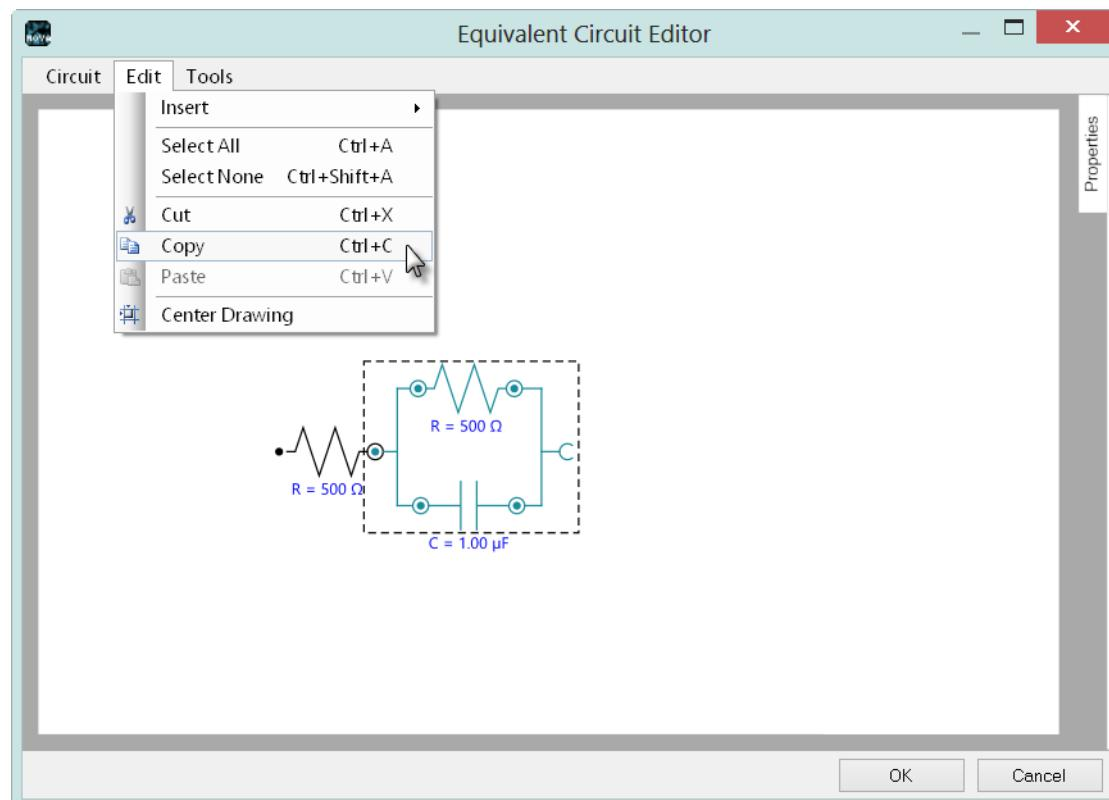

Figure 125 – Selected circuit elements can be copied/pasted directly in the editor
- **Copy/Cut and Paste element(s):** select one or more elements in the equivalent editor by dragging a box around the circuit element and selecting the *Copy* or *Cut* option from the Edit menu (or the right-click menu or the CTRL-C/CTRL-X keyboard shortcuts) to copy them to the clipboard (see Figure 125). The copied elements can then be pasted into the equivalent circuit editor, using the *Paste* option from the Edit menu (or the right-click menu or the CTRL-V keyboard shortcut).